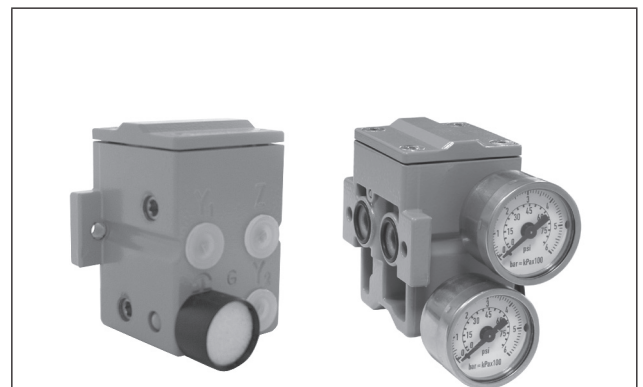

Fig. 1: Type 3710 Reversing Amplifier without and with two pressure gauges
- **Type 3710** (Fig. 1) · Reversing amplifier with pressure gauge connections at the front and back
- Type 3710 Reversing Amplifier with two pressure gauges (accessories) for Y_1 and Y_2 (see Fig. 1)